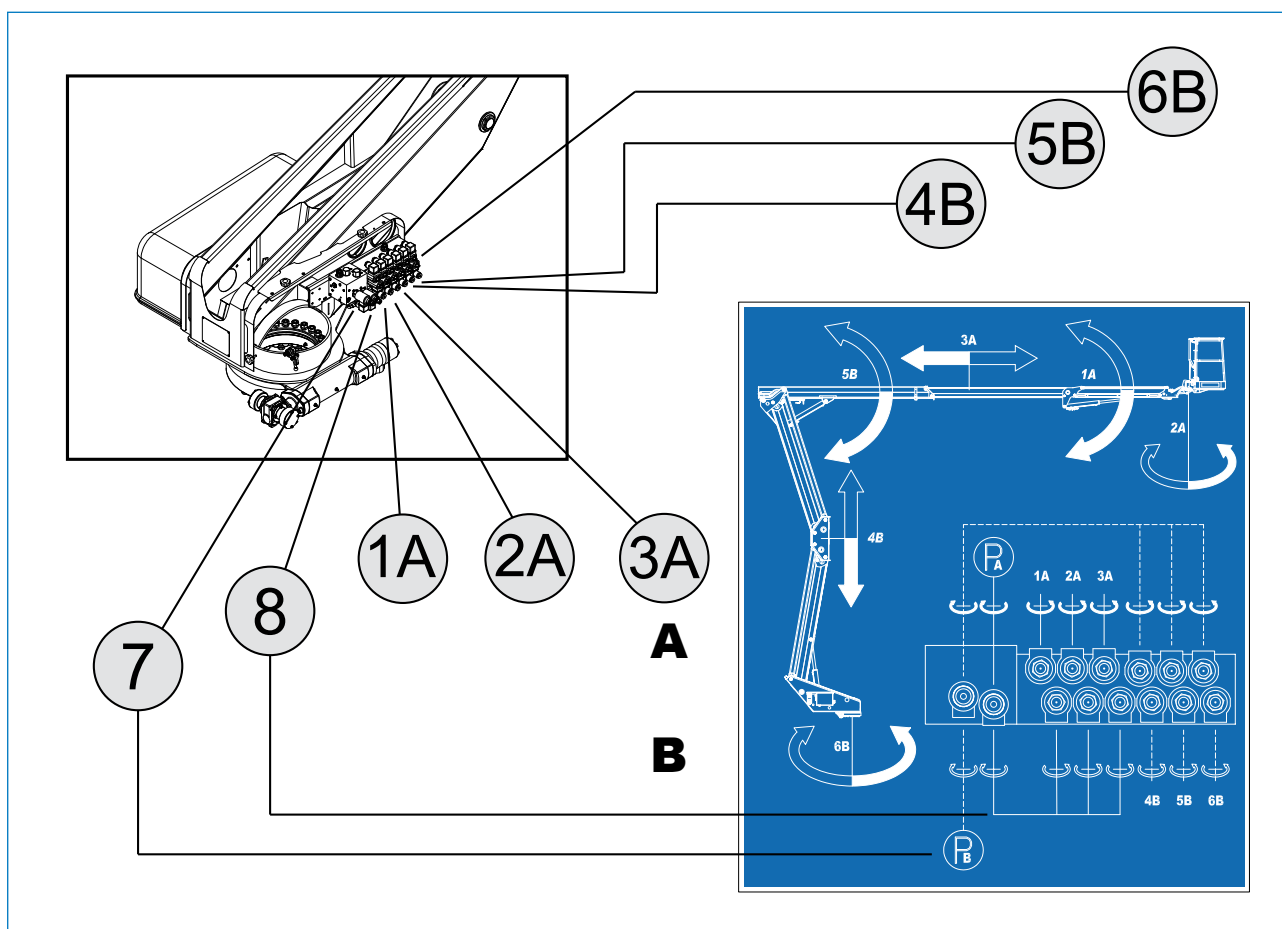

Fig. 7.4
- 5) lower the platform to the ground following the indications shown in the diagram on the label (Fig. 7.4) above the cover:
- A) Close the valves completely (Fig. 7.4 7 and 8)
- B) open the valve relative to the telescopic arm, **3A** to extend or **3B** to retract the extension: set the required travel speed using the proportional valve **8**. After completing the manoeuvre, close the valve (Fig. 7.4, **3A** or **3B**) and the valve (Fig. 7.4, **8**);
- C) open the valve relative to the articulated arm, **4A** to lower or **4B** to lift the arm: set the required travel speed using the proportional valve **7**. After completing the manoeuvre, close the valve (Fig. 7.4, **4A** or **4B**) and the valve (Fig. 7.4, **7**);
- D) open the valve relative to the turret, **6A** for counterclockwise rotation or **6B** for clockwise rotation: set the required travel speed using the proportional valve **7**. After completing the manoeuvre, close the valve (Fig. 7.4, **6A** or **6B**) and the valve (Fig. 7.4, **7**);
- E) open the valve relative to the aerial, **1A** to lower or **1B** to lift the aerial: set the required travel speed using the proportional valve **8**. After completing the manoeuvre, close the valve (Fig. 7.4, **1A** or **1B**) and the valve (Fig. 7.4, **8**);
- F) open the valve relative to the working platform, **2A** for counterclockwise rotation or **2B** for clockwise rotation: set the required travel speed using the proportional valve **8**. After completing the manoeuvre, close the valve (Fig. 7.4, **2A** or **2B**) and the valve (Fig. 7.4, **8**);
- G) and finally open the valve relative to the telescopic arm, **5A** to lift or **5B** to lower the arm: set the required travel speed using the proportional valve **7**. After completing the manoeuvre, close the valve (Fig. 7.4, **5A** or **5B**) and the valve (Fig. 7.4, **7**);
- H) after having completed the manoeuvres, completely unscrew the proportional valves (Fig. 7.4, **7** and **8**);